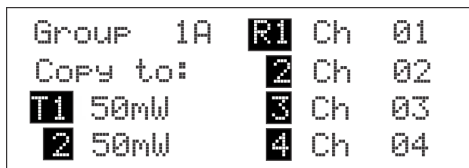

FIGURE 54. Copy Screen
- > Press and hold the **SET+DOWN** buttons for 2 seconds in the group/channel select screen (see Figure 54).